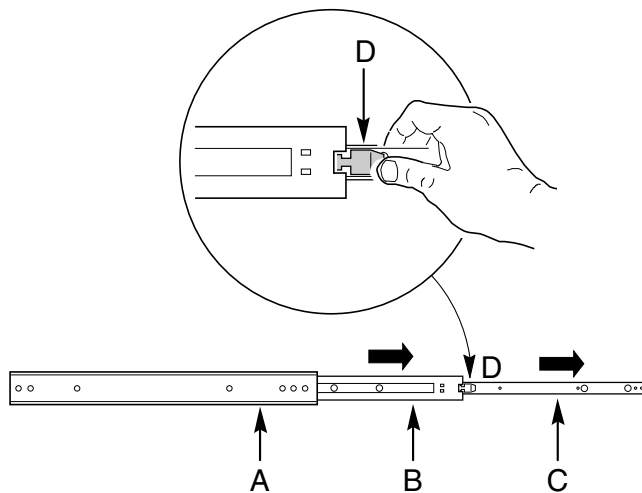

Figure: Step 2
- 2 Remove the inside piece (C in Figure Step 2) from both sides of the rail system. To remove an inside piece of the rail system, slide the part as far out as you can. This action reveals a brass colored finger tab (D in Figure Step 2) that when depressed allows you to completely separate the inside rail piece from the outer (A in Figure Step 2) and middle (B in Figure Step 2) rail pieces.